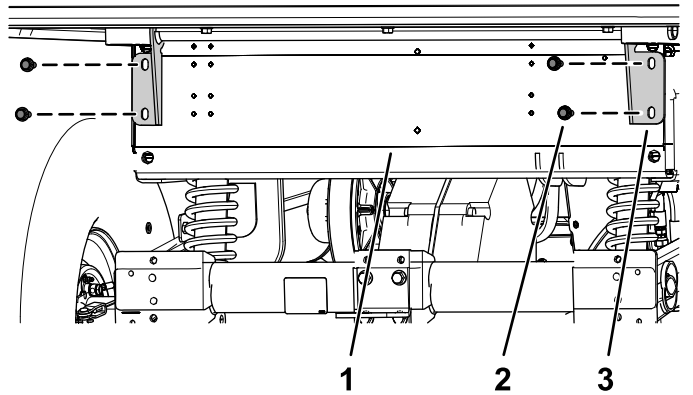

Figure 15
6. Carefully lower the cargo bed until the holes in the hinge brackets align with the mounting holes for the cargo bed in the rear frame channel (Figure 15).
7. Secure the hinge brackets to the rear frame channel using the previously removed 4 flanged-head bolts (3/8 x 1 inch) as shown in Figure 15.
4. Secure the hinge brackets to the rear frame channel using the previously removed 4 flanged-head bolts (3/8 x 1 inch) as shown in Figure 15.